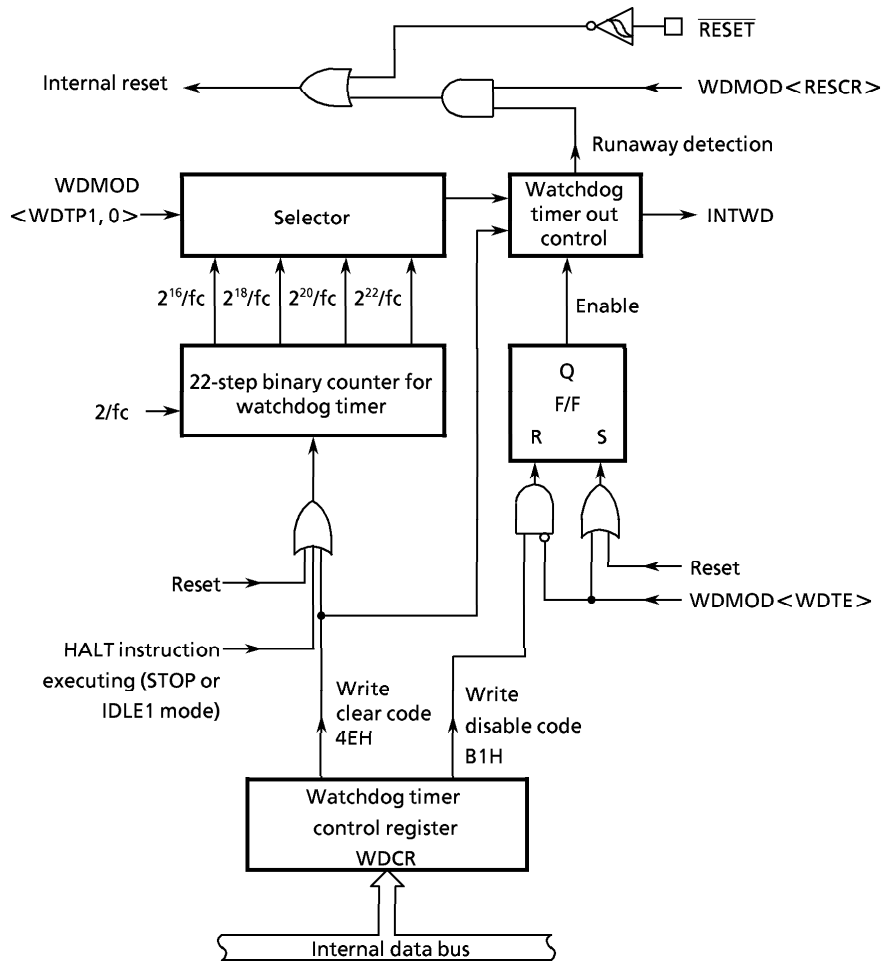

Figure 3.12 (1) Watchdog Timer Block Diagram
TMP95CS64/265 incorporates a watchdog timer for detecting a runaway (out-of-control) condition. The watchdog timer (WDT) returns the CPU to its normal state when it detects the start of a CPU runaway due to, for example, noise. When the watchdog timer detects a runaway, it generates an INTWTD (non-maskable) interrupt to notify the CPU of the condition. In addition, the runaway detection result can be used for a forcible reset of the microcontroller itself. The watchdog timer consists of a 22-step binary counter with $2/f_c$ as the input clock, and a control block. Figure 3.12 (1) is a block diagram of the watchdog timer (WDT).